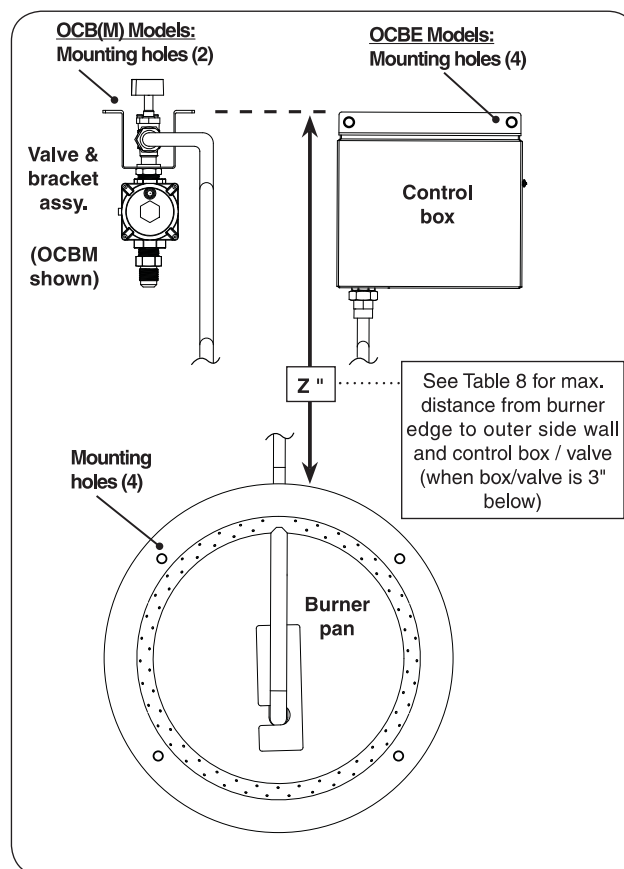

Fig. 11-1 Mounting detail (top view)
- The control box / valve and bracket assembly is to be installed in the enclosure side wall using the 2 or 4 mounting holes found on the box / bracket assembly (see Fig. 11-1).
- The burner pan is to be installed onto the non-combustible sub-plate using the 4 mounting holes found on the pan (see Fig. 11-1).
Note: The maximum distance from the edge of the burner pan to the outer side wall and control box / valve is **Z"** (when the box/valve is located 3" below the burner pan). See Fig. 11-1 and Table 8, and refer back to the figure on the previous page.